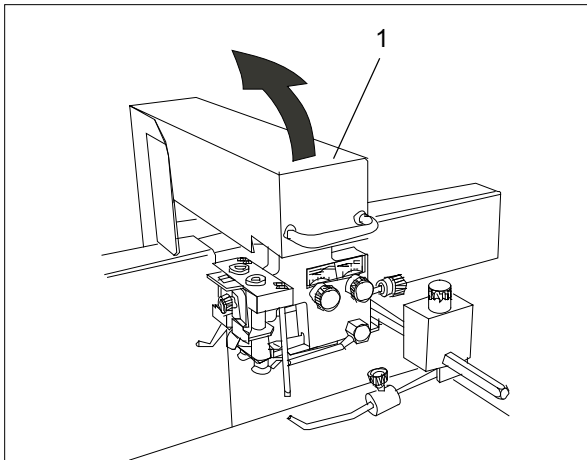

Fig. 15 Rear edge separator
2. Tilt the rear edge separator (Fig. 15/1) all the way up (it is supported and held by a gas-filled shock absorber).